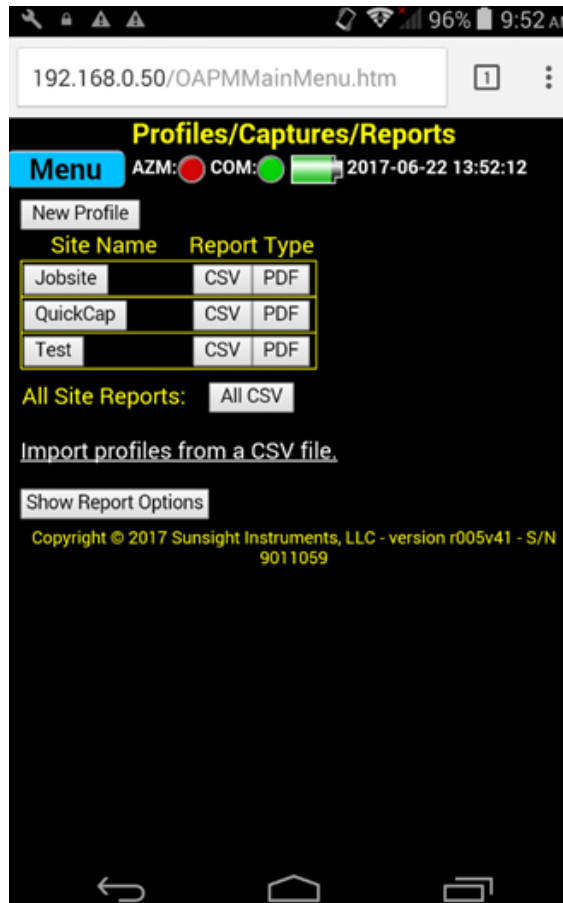

Figure 26
- 5) Locate the site name for the report to be generated. *See Figure 26*